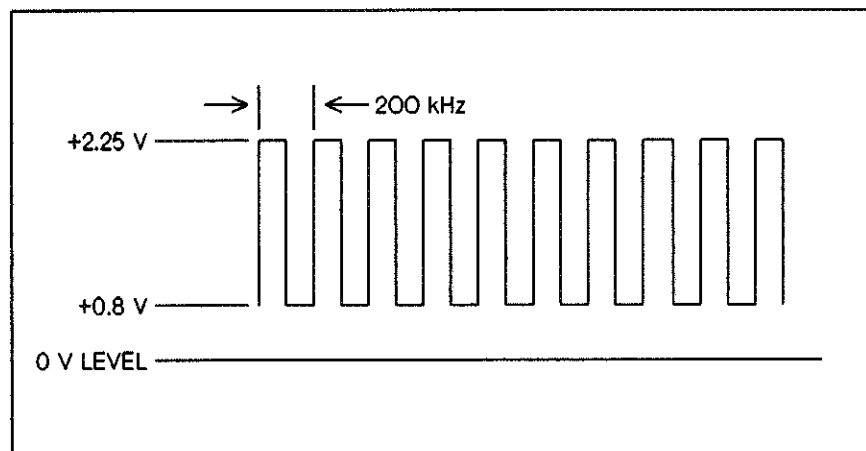

Figure 11-5 Non-Isolated TTL Input Test Signal
13. Set the function generator to output a +0.8 V to +2.25 V peak-to-peak, 200 kHz square wave. The signal is represented in Figure 11-5. If using the recommended function generator, set it up as follows (a 50  $\Omega$  output impedance is assumed):